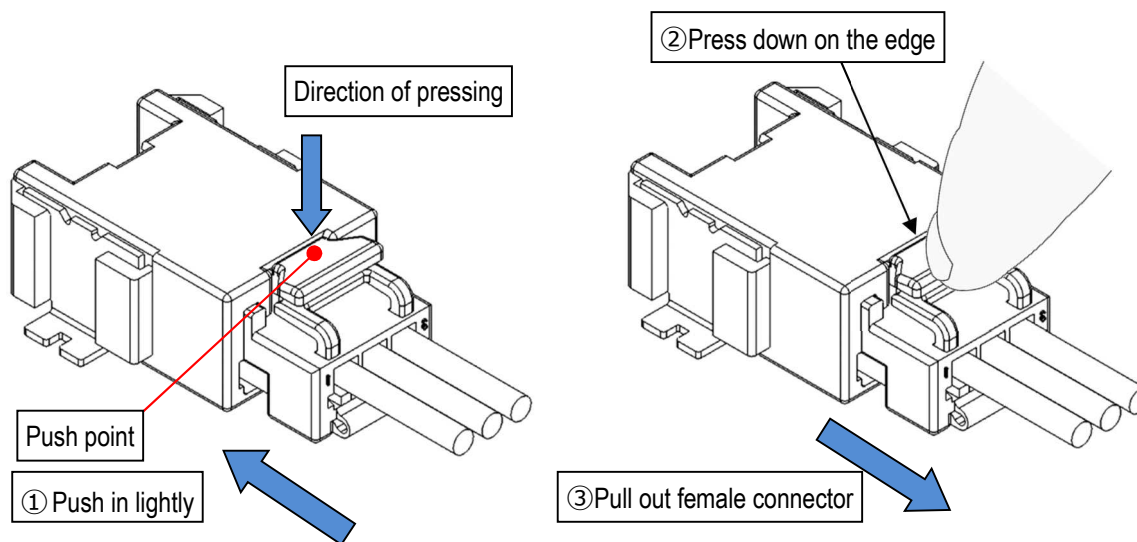

Fig52. Lock arm
- ① Hold the female connector and push it in lightly.
- ② While holding the female connector in, press down fully on the end of the arm (see Fig. 52).
- ③ Keep pressing the lock down, and pull out the female connector.